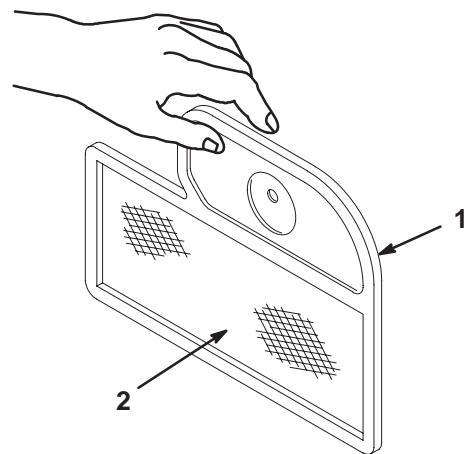

Figure 25
1. Lightly tap the element on a flat surface to remove dust and dirt (Fig. 25).